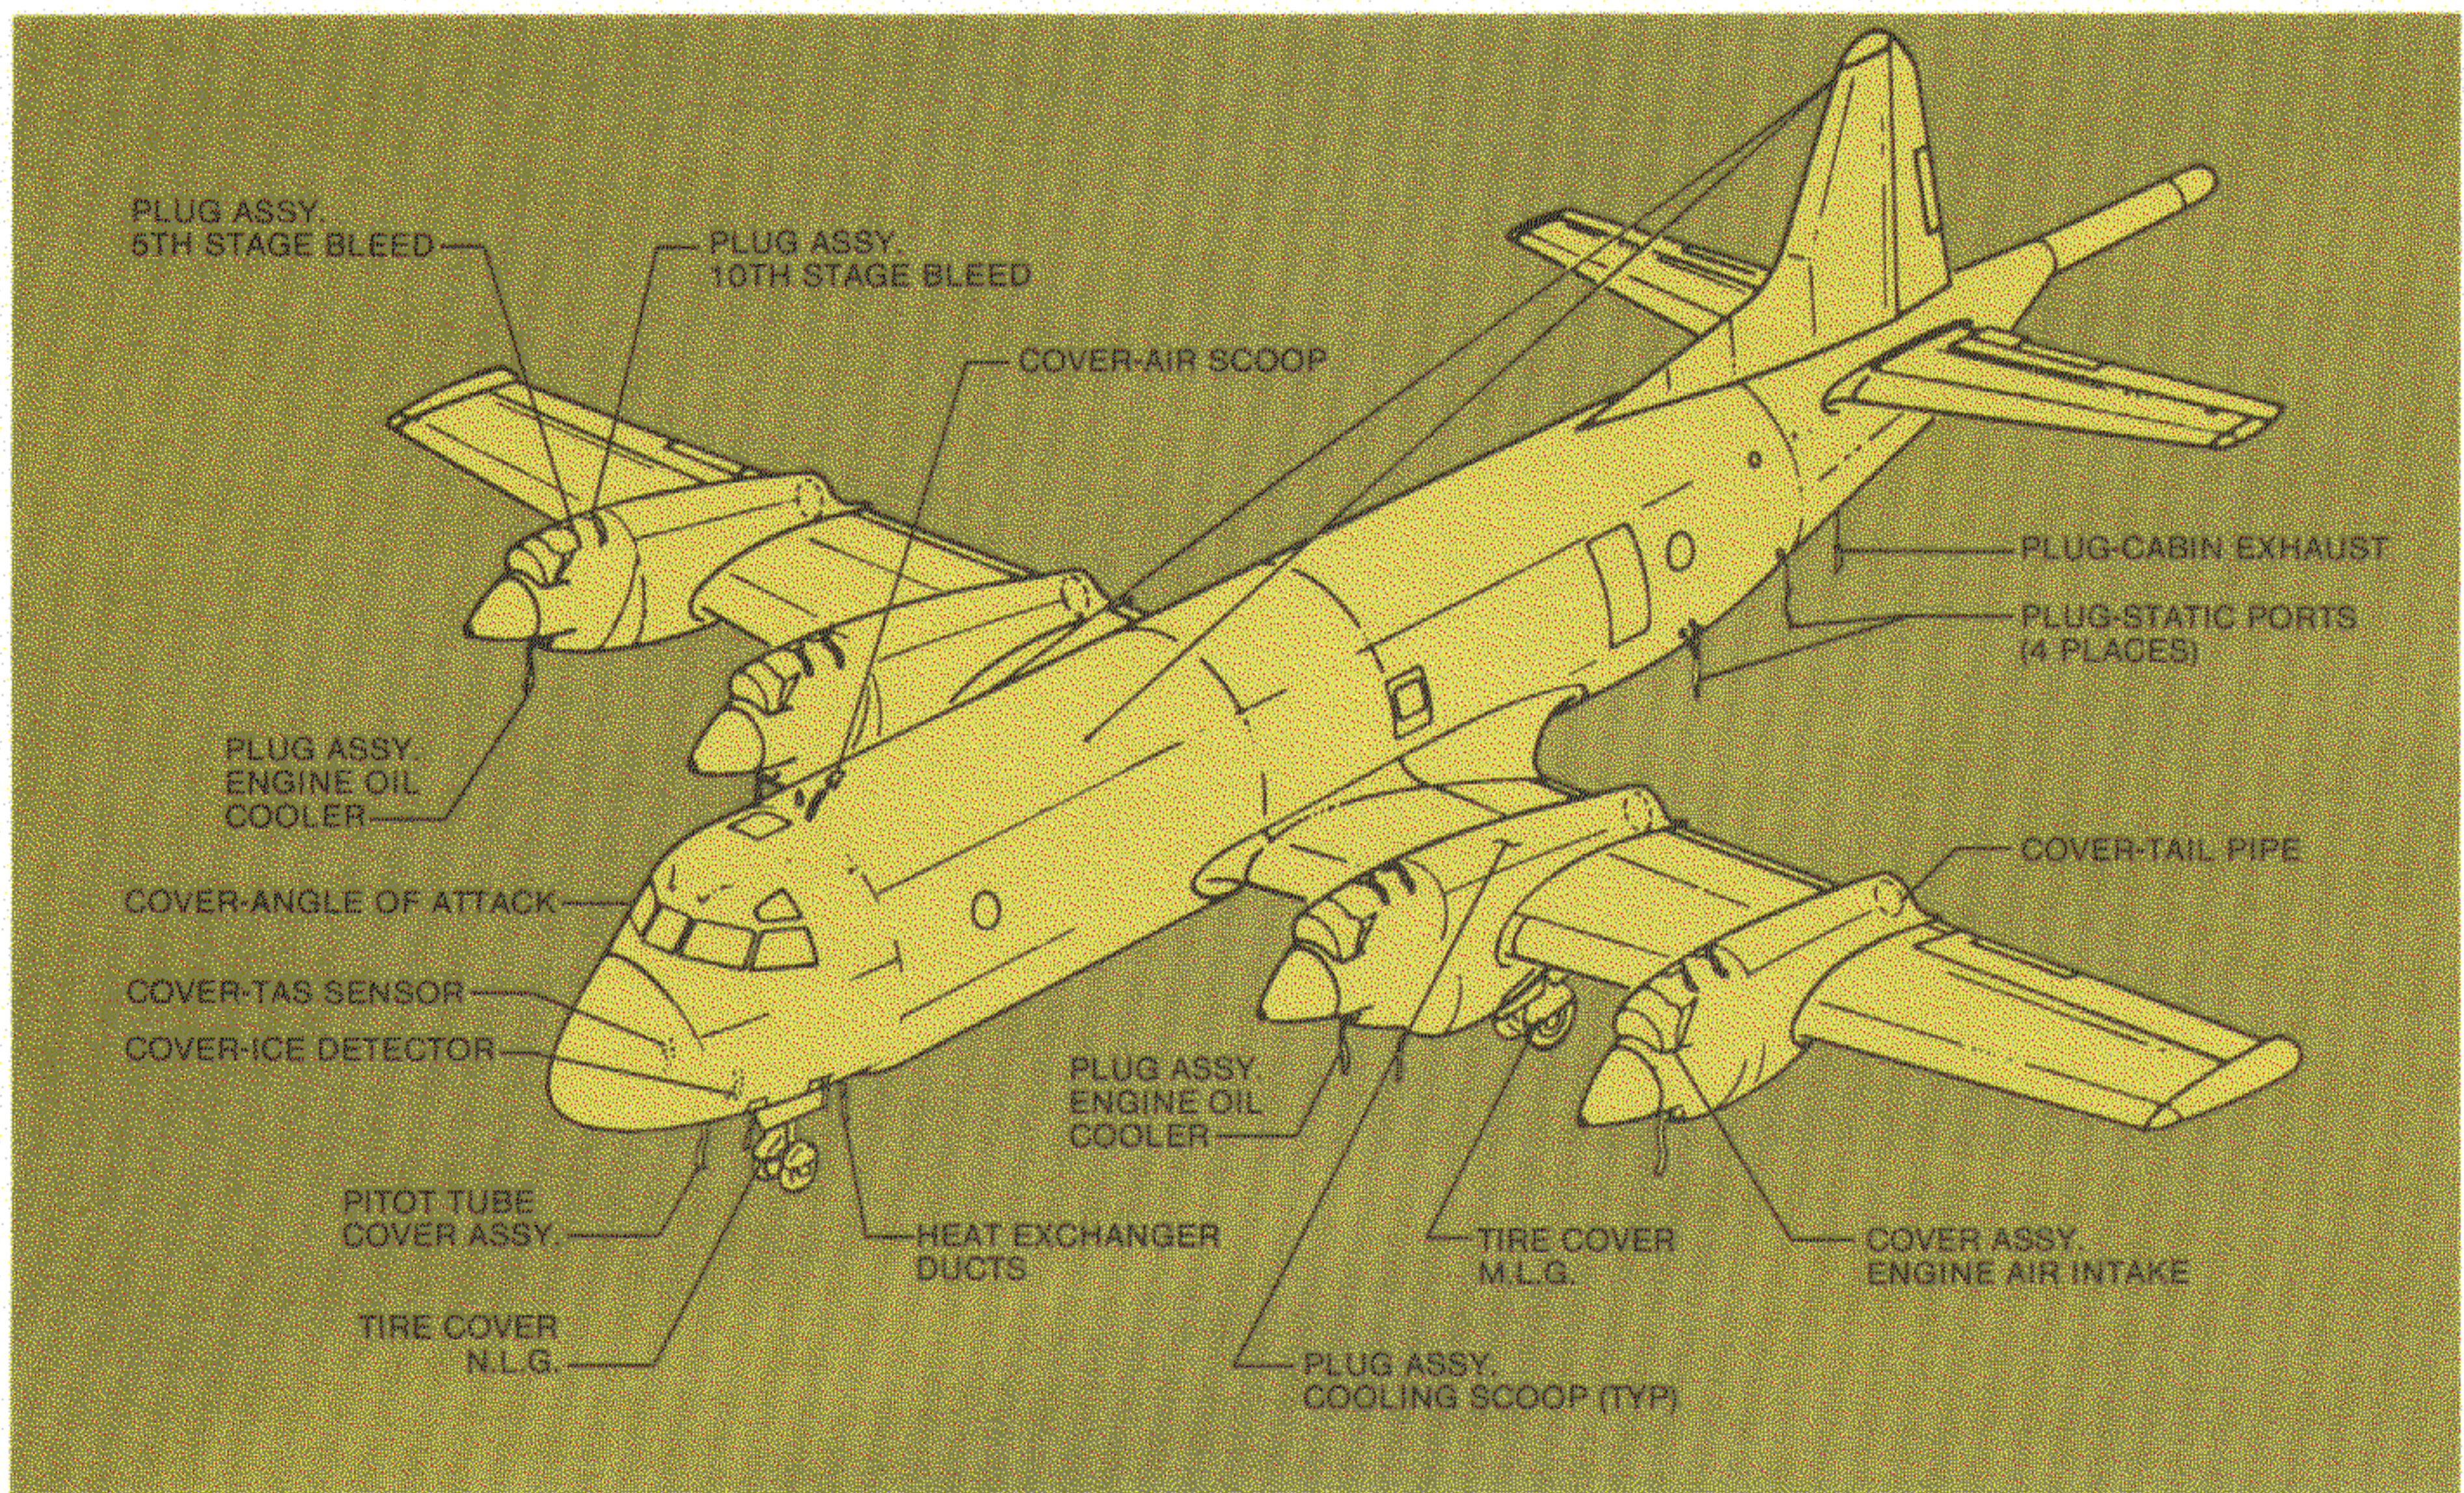

Figure 2. Service Cover Locations on P-3 Aircraft
- Ensure that the ice detector probe, static ports, pitot tubes, and exterior drains are free of accumulations of ice and snow (Figure 2).